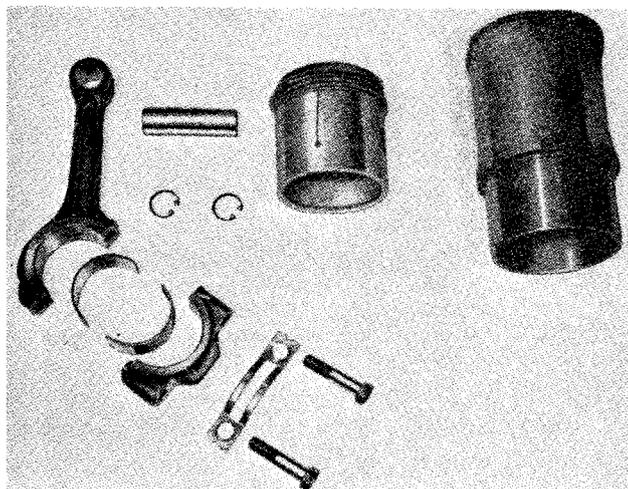
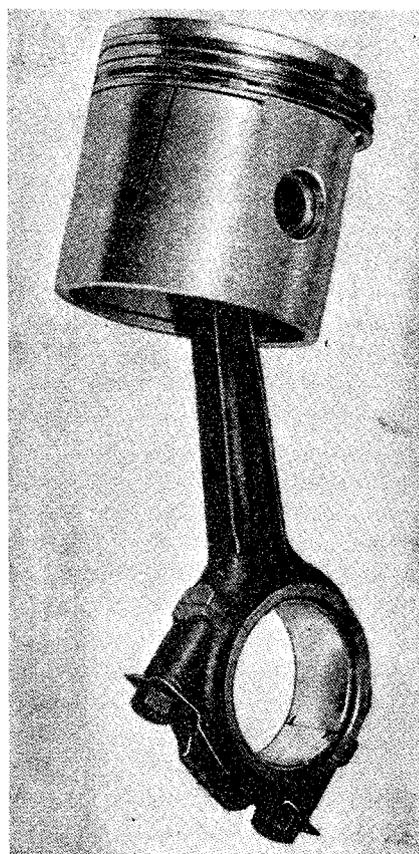

Fig. 6 The Piston and Connecting Rod Assembly in exploded form.
Fig. 7 The Piston and Connecting Rod Assembly. Note position of cap in relation to split in piston skirt.
- (d) **The Connecting Rods** (Fig. 6) are molybdenum manganese steel stampings being provided with phosphor bronze small end bushes and precision type big end bearings. The rod is drilled from the big end bearing end to the small end bearing to provide for the passage of oil under pressure from the main supply. The big end bearing cap is of a special design, the cap securing bolts being inclined at an
- (e) **Aeroflex Compensating Pistons** (Fig 6) are employed, which are made from a special aluminium alloy and each provided with two compression rings and one oil scraper ring. The pistons are graded F, G or H (dimensions on page 2) and this symbol is stamped on the crowns. The piston skirt has a $\frac{1}{32}$ " slot on the non-pressure side and is fitted to the connecting rod so that this slot is away from the point of maximum thrust, Fig. 7 (facing the camshaft side of the engine).